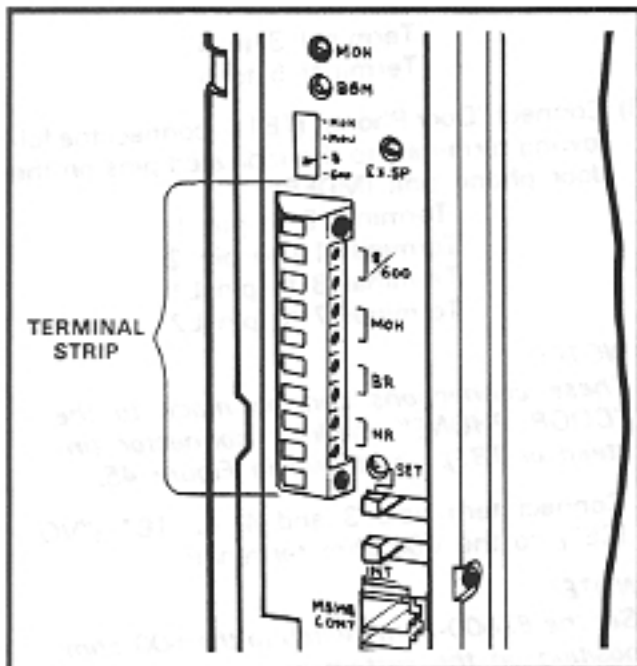

FIGURE 47—TERMINAL STRIP
10.01 All connections to miscellaneous equipment are made via the terminal strip mounted on the left side panel as shown in Figure 47.